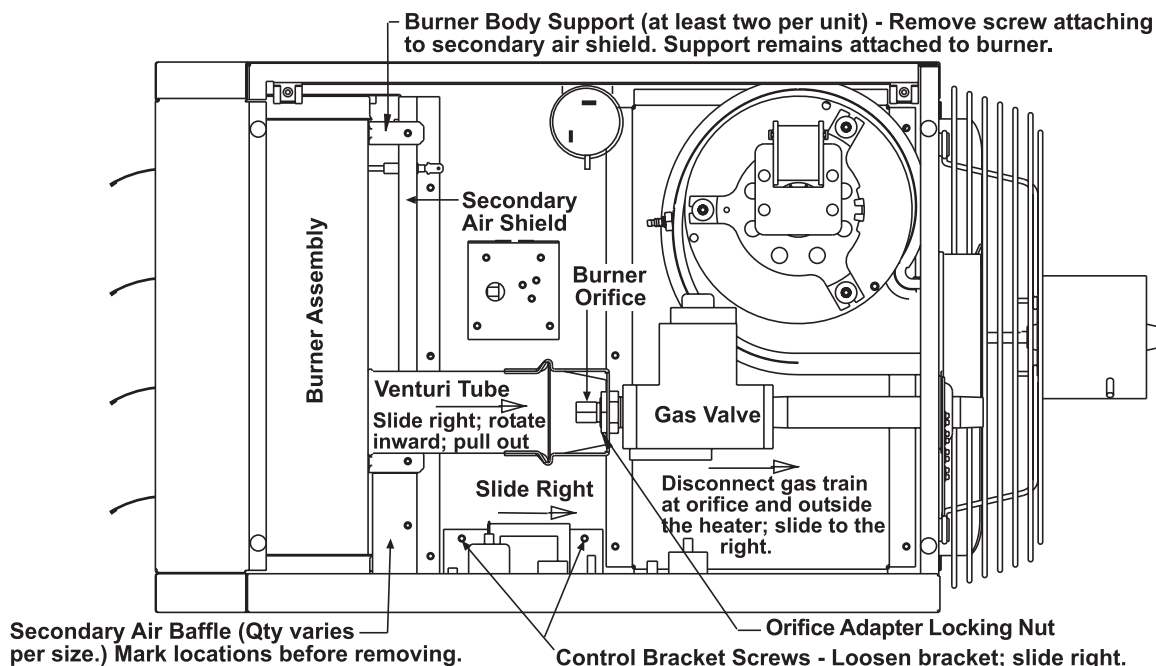

Figure 15. Typical Burner Assembly
Visually inspect the burner compartment (see Figure 15). If there is an accumulation of dirt, dust, and/or lint, clean the compartment and remove and clean the burner as follows:
2. Remove burner assembly (see Figure 15):
- (1) Remove four screws that secure end cap to burner housing.
- (2) Lightly tap end cap to remove it.
5. Re-install burner assembly (see Figure 15):